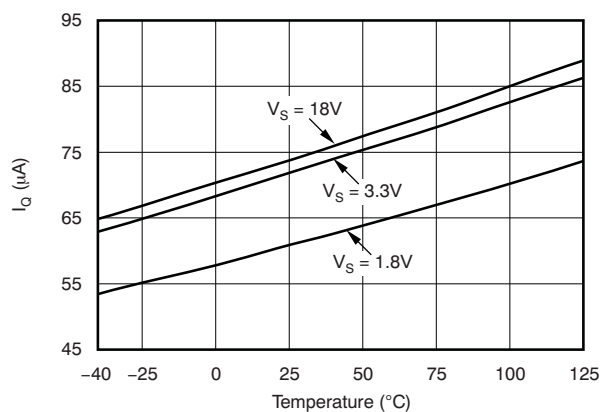

Figure 1.
(1) 100% of production is tested at $T_A = +85^{\circ}C$. Specifications over temperature range are ensured by design.
(2) Shaded cells indicate characteristic performance difference.
(3) See Figure 1 for typical quiescent current.